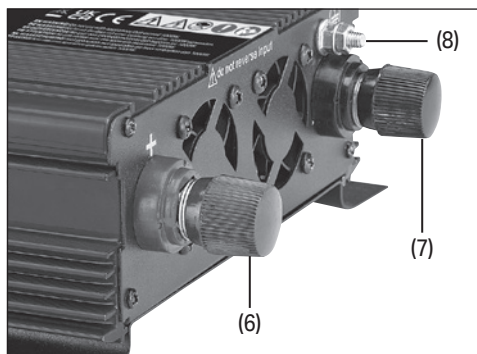

Fig. 1
### 6.1 Power Inlet connections - Fig. 1.
**WARNING!** before using the inverter it is recommended that ground connection is provided to the earth point (8) - Fig.1. The use of the earth point will depend on your particular installation. In any installation, heavy duty, green+yellow-insulated wire should be used for this connection.